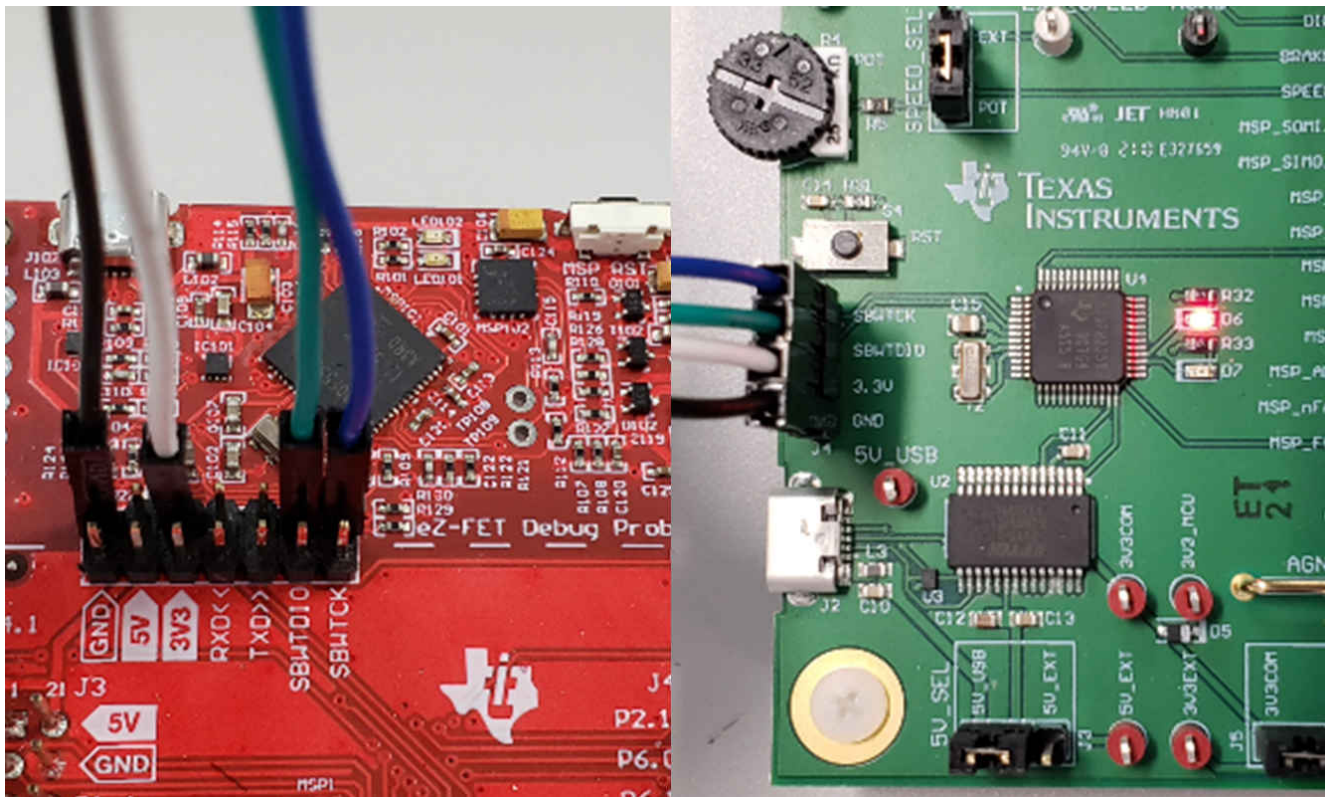

Figure 7-2. MSP430 LaunchPad™ eZ-FET Probe Connected to MCT8317EVM
2. Connect the top pins on the eZ-FET side of the LaunchPad of the GND, 3V3, SBWTCK, and SBWTDIO signals to their respective pins on J4 of the MCT8317EVM as shown in Table 7-1 and Figure 7-2.